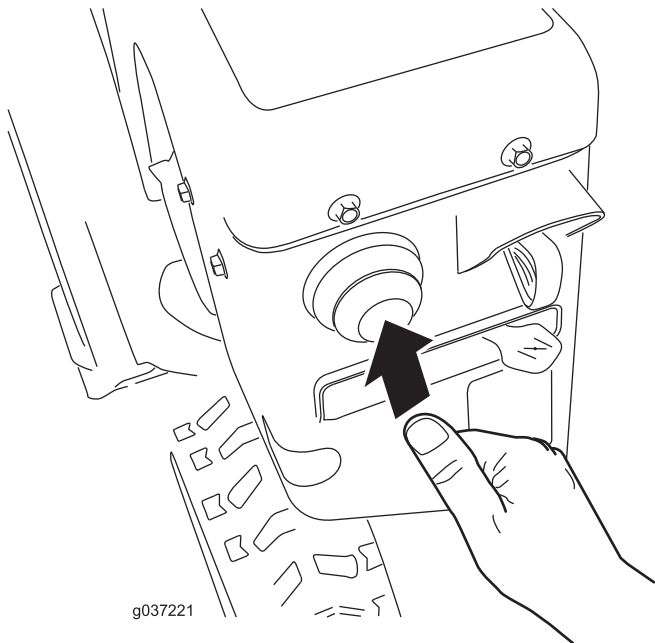

Figure 22
- 4. Firmly push in the primer with your thumb as indicated by the table below, holding the primer in for a second before releasing it each time (Figure 22).